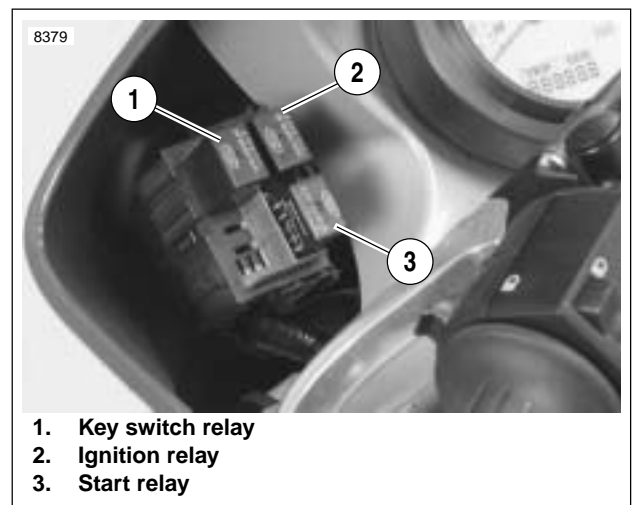

Figure 7-16. Relay Block
1. See Figure 7-16. Locate ignition relay (2) within relay block.
See Figure 7-16. The key switch relay (1) is located on the left side of the vehicle behind the fairing. See Ignition Relay under 7.5 STARTER INTERLOCK for testing procedure.